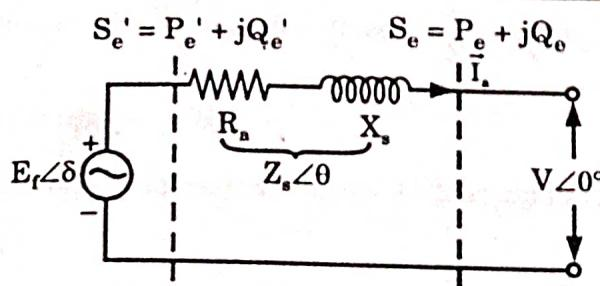

Fig. 2.2.1. Circuit model of cylindrical rotor synchronous generator.
4. Let subscripts  $i, o, g$  and  $m$  denote input, output, generator and motor respectively. From Fig. 2.2.1,  $\vec{E}_f = \vec{V} + \vec{Z}_s \vec{I}_a$  ... (2.2.1)